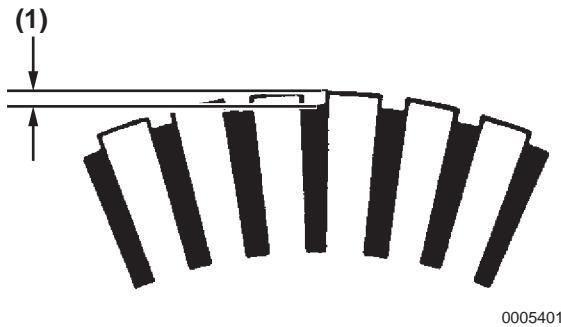

Figure 10-14
7. Check the undercut depth (**Figure 10-14, (1)**) for entanglement of foreign matter, if necessary smooth the edges. If the measured undercut depth is less than the specified minimum, correct it with hack saw blade or replace the armature.